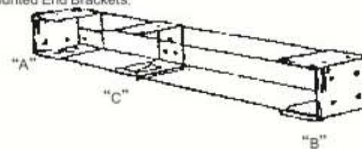

Figure 3
NOTE: Center support brackets shall be installed before insert headrail for 30" and wider blinds. (See Figure 3).
3. Slide Mounting Bracket Front Caps into the Mounting Brackets in front of the Headrail. (See Figure 3).